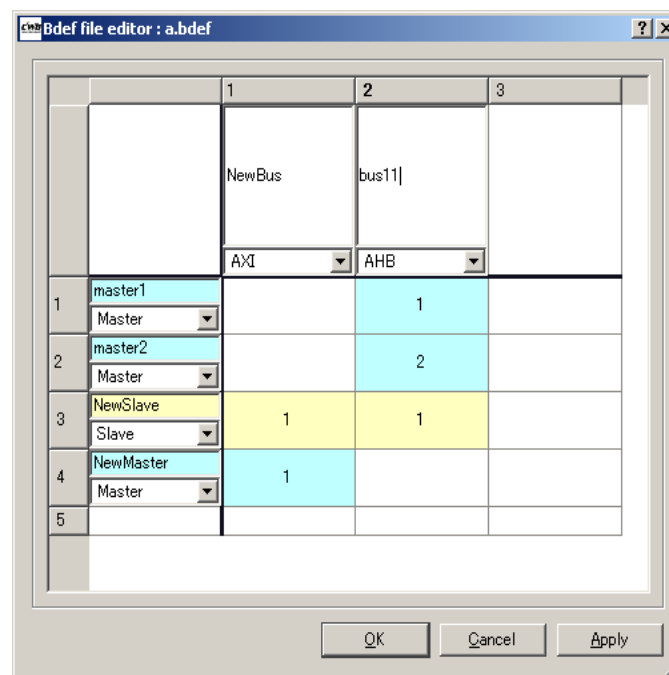

Figure 13-2 Editor screen after array
- Alignment: Aligning of module is done for the corresponding bus as per the connection state. Aligning is done in the following order. Figure 13-2 shows the example of screen in which aligning is implemented for bus 11 of Figure 13-1.